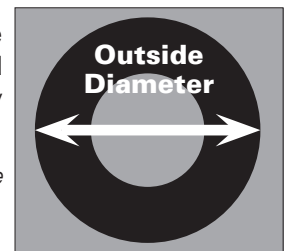

Figure 16 - Measure Outside Tire Diameter
2. Measure the outside tire diameter, see figure 16, and enter this diameter manually using the keypad.